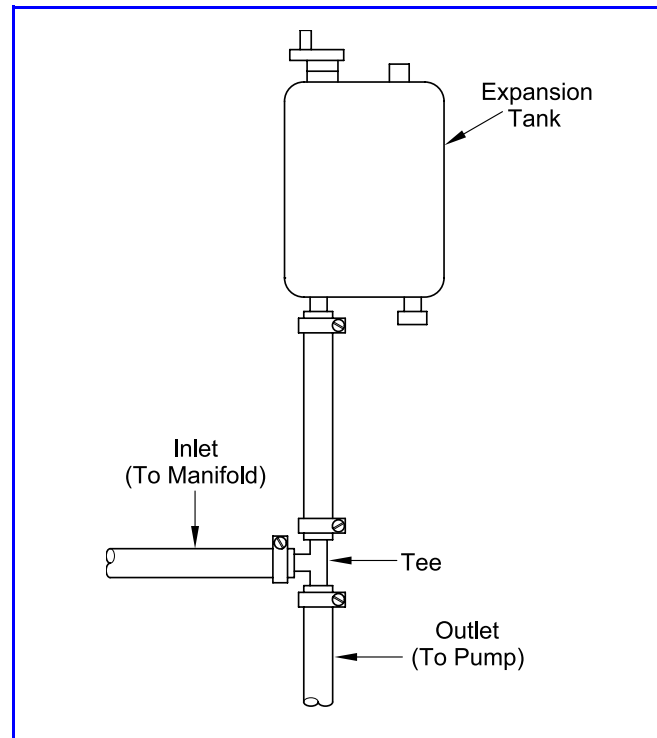

Figure 33 Coolant System Expansion Tank
1. Remove coolant from expansion tank. See **Figure 33**.